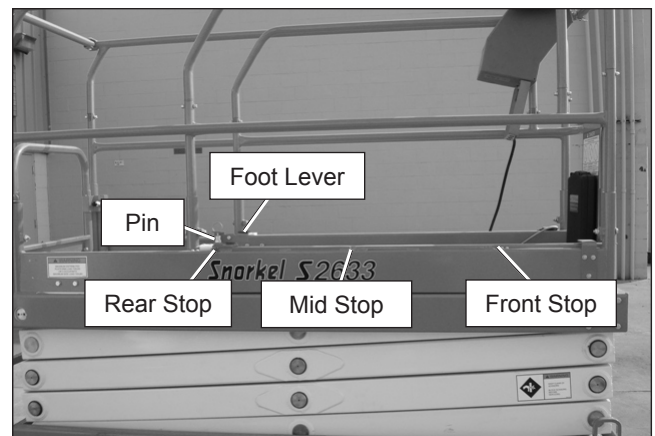

Figure 8.17 – Platform Extension
1. Inspect the foot lever (refer to Figure 8.17) to ensure that it releases the pin to extend the platform.
6. While facing the front of the platform, depress the foot lever and grasp the top rail of the extension deck. Pull backward to retract the deck until the pin engages the rear stop (refer to Figure 8.17).